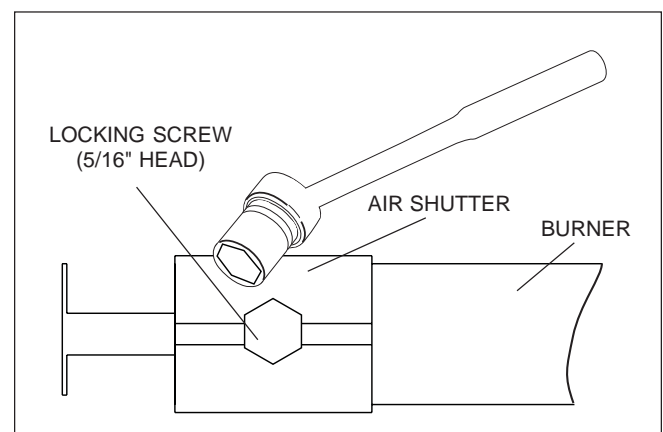

Figure 12. Air Shutter Adjustment.
- Remove burner cover by loosening two (2) thumbscrews.
- On all burners exhibiting an abnormal flame, loosen but do not remove the air shutter locking screw using a 5/16 inch wrench (see Figure 12).